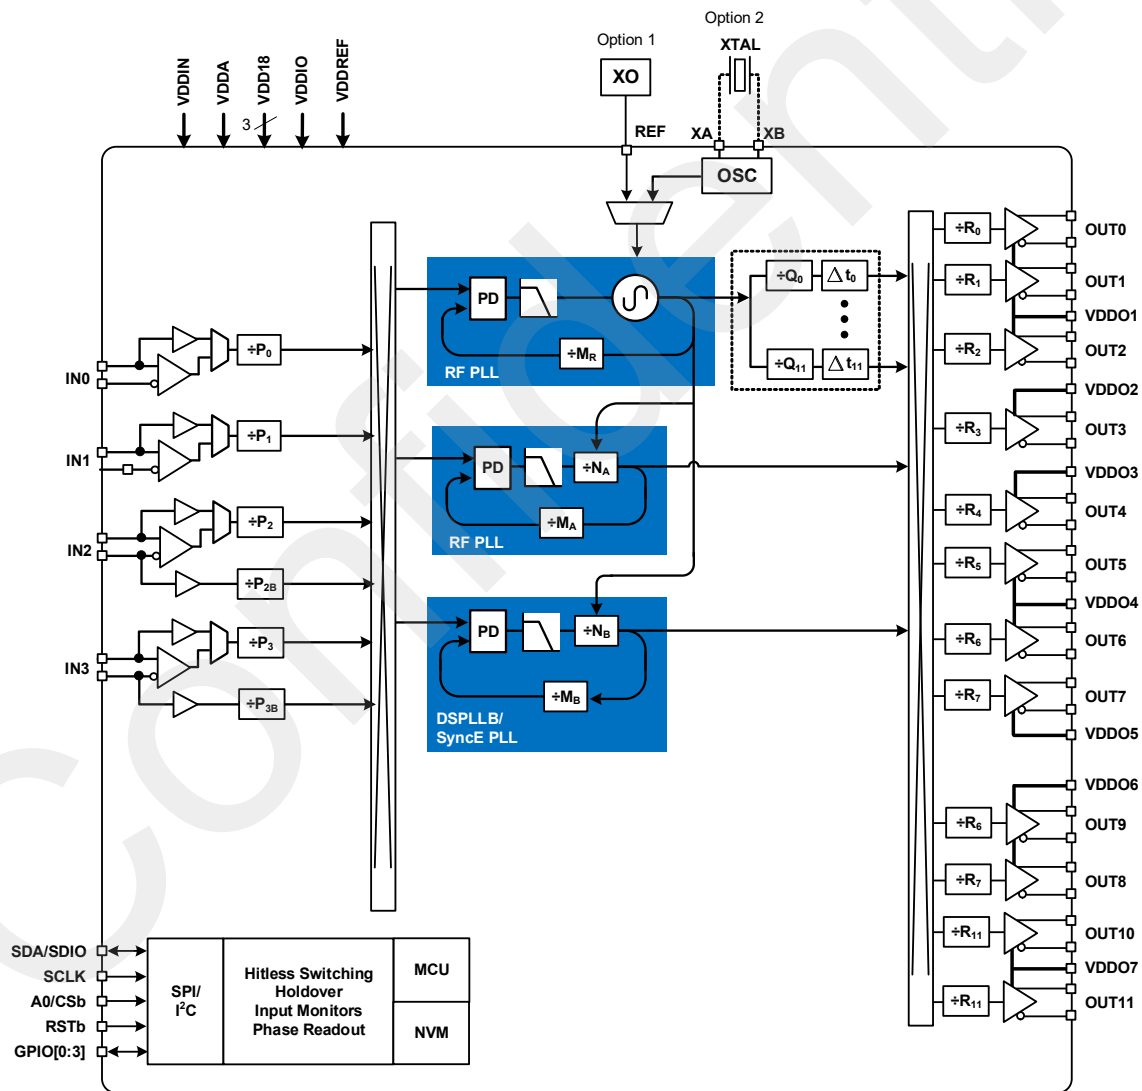

Figure 5. Single-Reference Mode
The Si5512 operates from either an external crystal oscillator (XO) connected to the REF\_IN pins or with an optional fixed-frequency crystal (XTAL) connected to the XA, XB pins. The internal oscillator (OSC) combined with a low cost external XTAL produces an ultra-low jitter reference clock for the PLLs (RFPLL, DSPLLA/B, PPSPLL). When using an external XO, it's important to select one that meets the jitter performance requirements of the end application. Operating the device with only an XO or XTAL is referred to as Single-Reference Mode, shown in Figure 5.